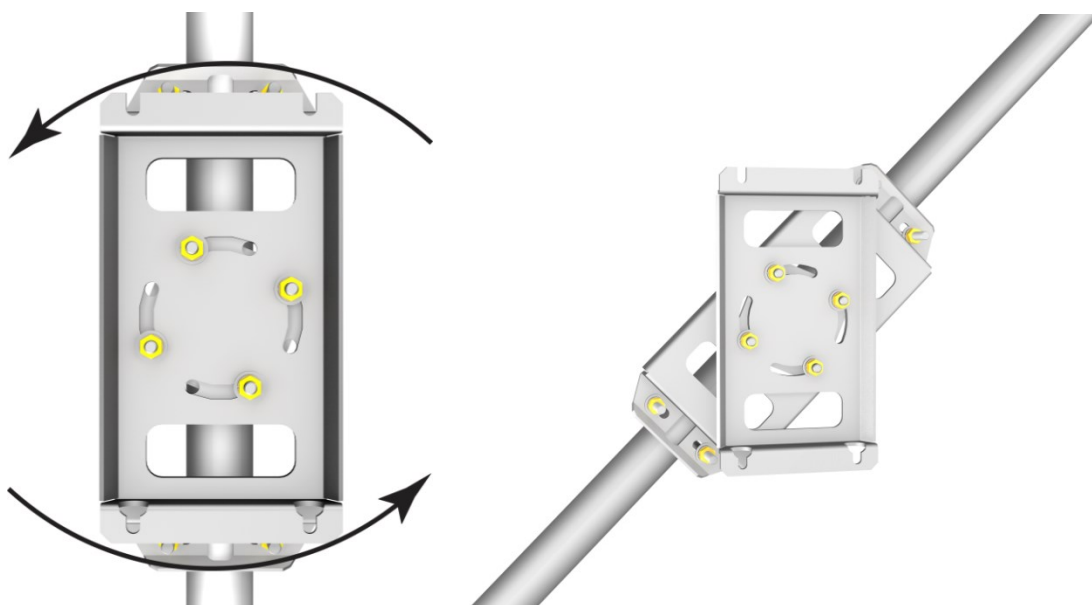
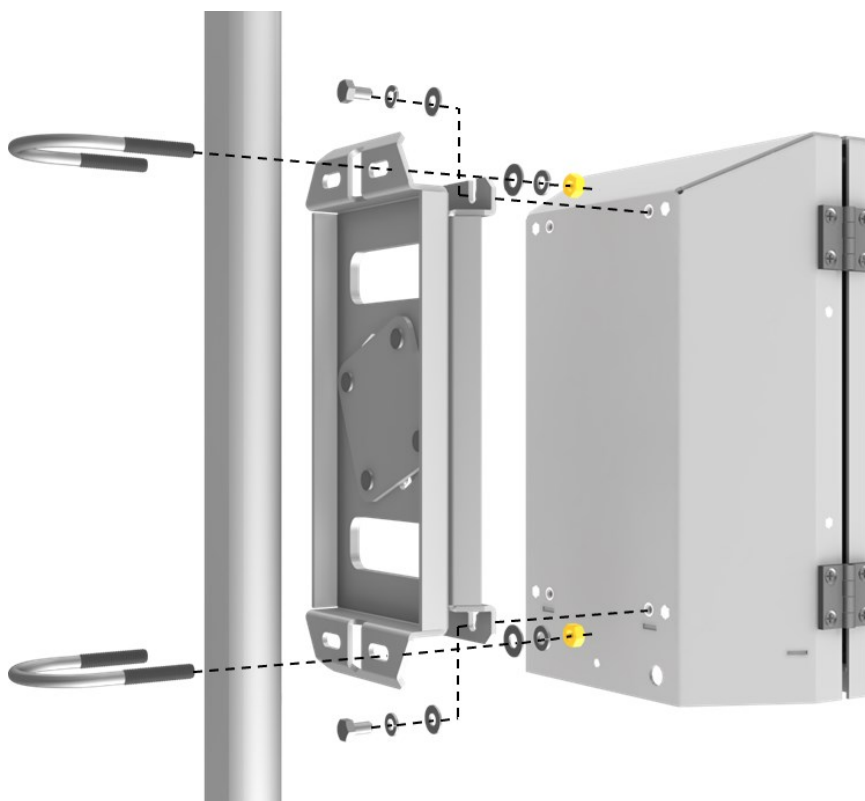

FIGURE 6-2. EC100 enclosure mounting bracket mounted on a vertical mast (left) and a tripod leg (right)
FIGURE 6-3. Exploded view of mounting the EC100 enclosure
7. Attach the EC100 enclosure to the mast, tripod leg, or other part of the mounting structure. To do this, attach the EC100 enclosure mounting bracket to the pipe by loosely tightening the u-bolts around the pipe. The u-bolts are found in the mesh pocket inside the EC100 enclosure. If the pipe does not run vertically (for example, if the enclosure is being attached to a leg of a tripod), rotate the bracket to the side of the pipe. The enclosure must hang upright. Make angle adjustments as needed by loosening the four nuts and rotating the bracket plates relative to one another. If the necessary angle cannot be achieved in the given orientation, the four nuts may be removed and the top plate indexed by 90° to allow the bracket to travel in the other direction (see FIGURE 6-2 (p. 15)). Once adjusted, tighten all the nuts. Finally, attach the EC100 enclosure to the bracket by loosening the bolts on the back of the enclosure, hanging the enclosure on the mounting bracket (it should slide into place and be able to securely hang from the bracket), and tightening the bolts (see FIGURE 6-3 (p. 15)).